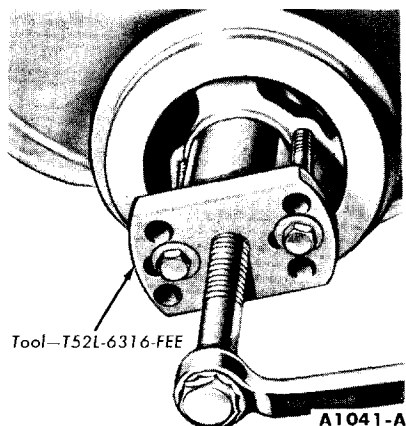

FIG. 18—Damper Removal
6. Remove the cap screw and washer from the end of the crankshaft, then remove the damper (Fig. 18).